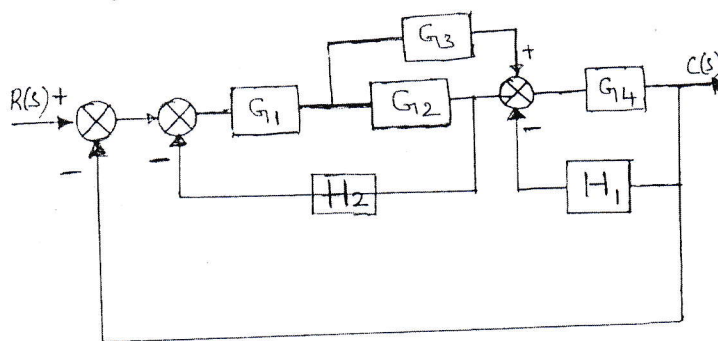

Fig. Q4 (a)
- 4 a. Obtain the closed loop transfer function of the system shown in Fig. Q4 (a) by block diagram reduction technique. (10 Marks)